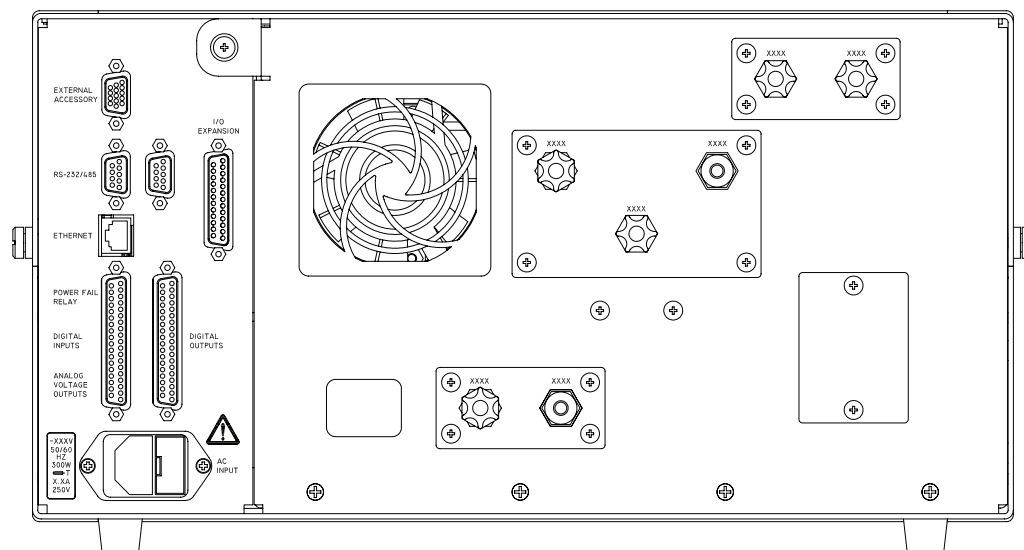

Figure 2-3. Model 49i Rear Panel
1. Connect the sample line to the SAMPLE bulkhead on the rear panel (Figure 2-3). Ensure that the sample line is not contaminated by dirty, wet, or incompatible materials. All tubing should be constructed of FEP Teflon®, 316 stainless steel, borosilicate glass, or similar tubing with an OD of 1/4-inch and a minimum ID of 1/8-inch. The length of the tubing should be less than 10 feet.